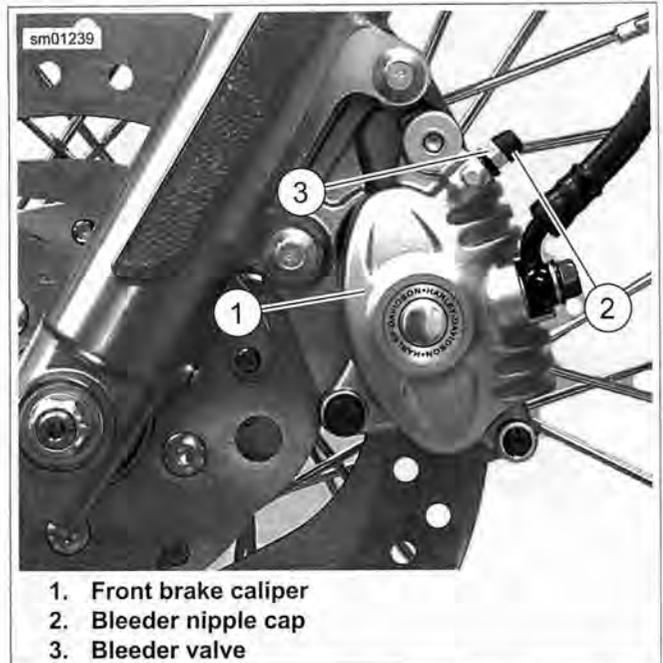
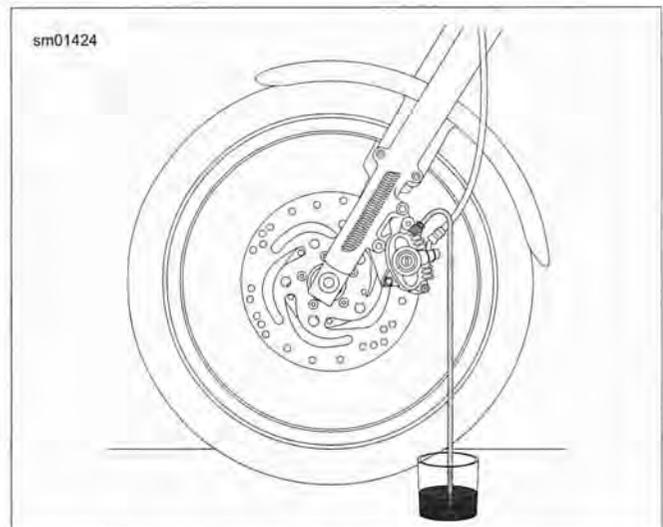

Figure 2-38. Front Caliper Bleeder Valve (typical; XL shown)
Figure 2-39. Bleeding Hydraulic System
- See Figure 2-38 and Figure 2-39. Remove bleeder nipple cap (2) from bleeder valve (3) on front brake caliper (1). Install end of a length of 5/16 in (7.9 mm) ID clear plastic tubing over caliper bleeder valve (3), while placing free end in a suitable container. Open bleeder valve about 1/2 turn. Pump brake hand lever several times to drain brake fluid. Close bleeder valve.